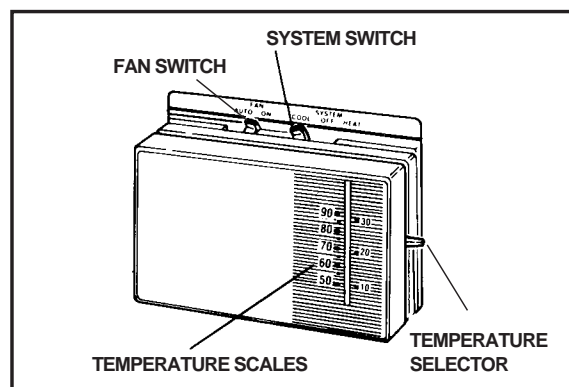

Figure 1. Typical Thermostat
1. Set the thermostat system switch to COOL or AUTO and the thermostat fan switch to AUTO. (See Figure 1)
1. Set the thermostat system switch to HEAT or AUTO and the thermostat fan switch to AUTO. (See Figure 1)
Set the thermostat system switch to OFF and the thermostat fan switch to AUTO. (See Figure 1)
Set the thermostat fan switch to ON (See Figure 1)
LED Description (See Figure 1)